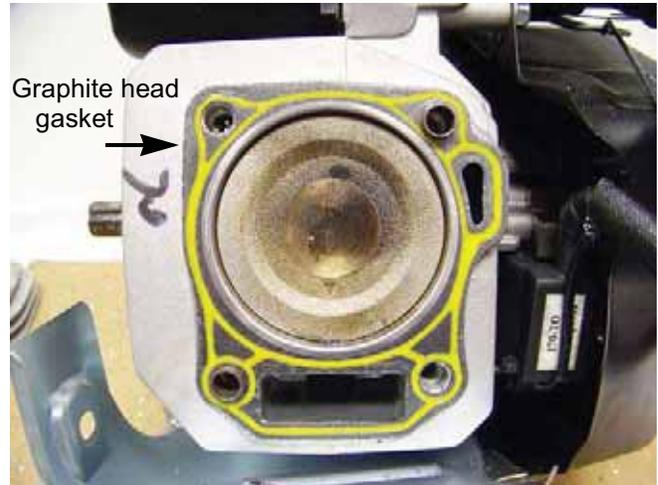

Figure 9.9
8. Place a new head gasket on the cylinder, allowing the alignment dowels to hold it in place. See Figure 9.9.